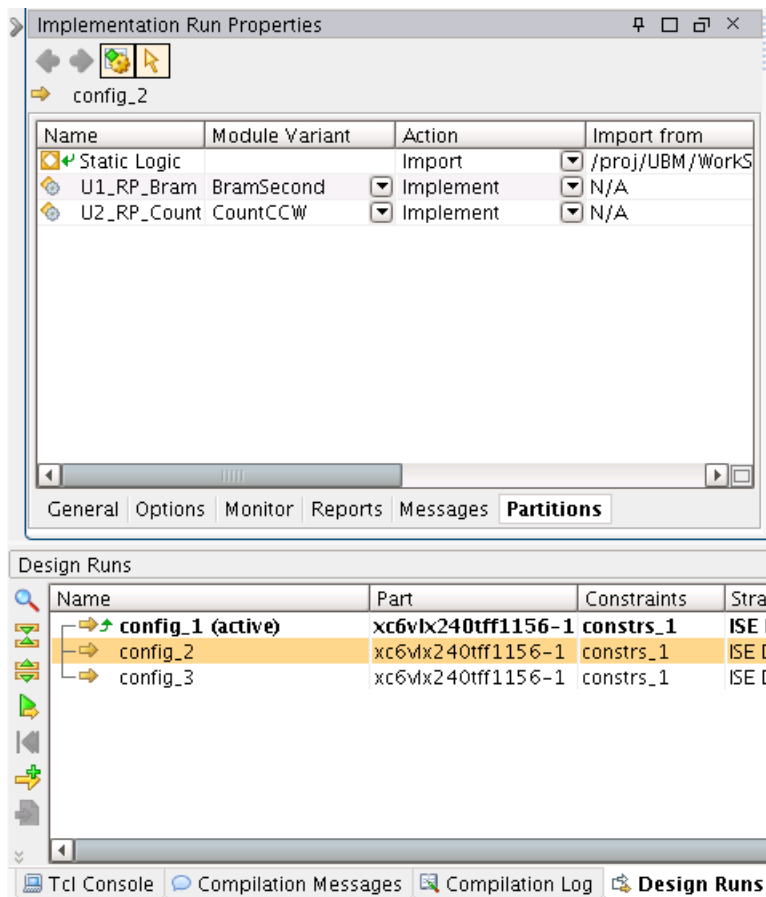

Figure 27: Verify Configuration Settings
- 10-1-14.** In the Design Runs window, you will now see new configurations that were created through the wizard. Select a new configuration in the Design Runs window and click the Partitions tab in the Implementation Run Properties window (Figure 27) to verify the Module Variants and Action fields. Note that the Static logic is set to Import, and will be imported from the promoted results from config_1.